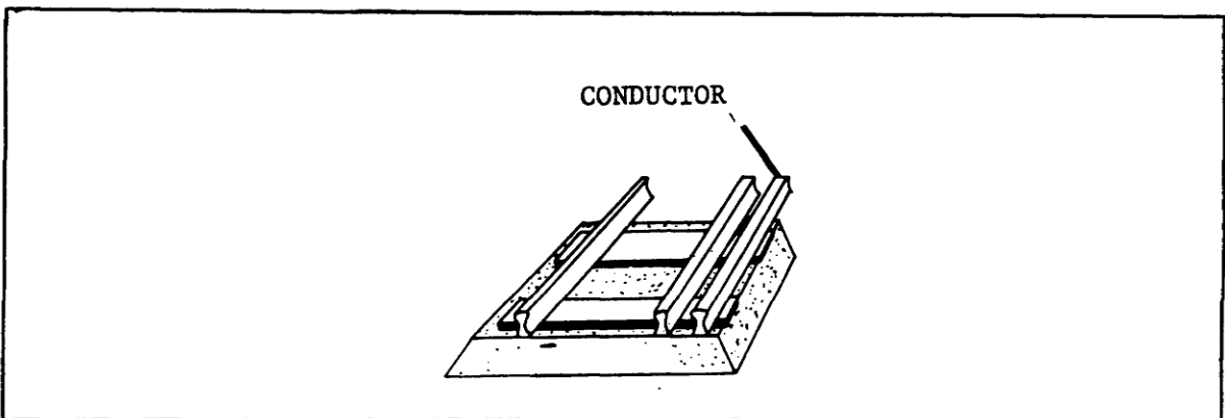

Figure 1-22. 3-Rail System.
b. 3-rail system. In this system, the conductor is a third rail placed just outside the running track. "Shoes" on the locomotive pick up the current and return it via the running rails (Figure 1-22).